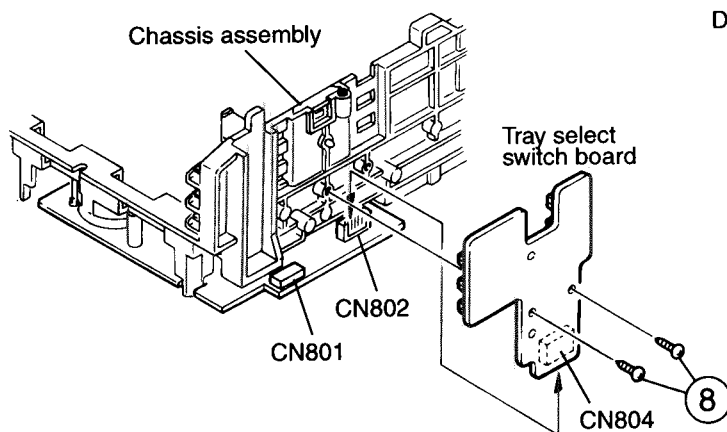

Fig.15
3. Remove the two screws 8 retaining the tray select switch board(See Fig.15).
■ Removing the cam unit (See Fig.15 ~18)